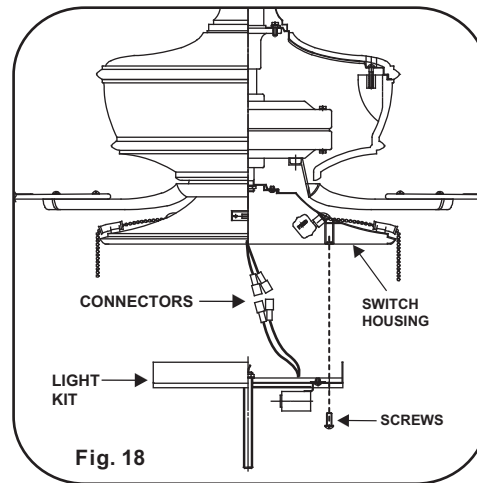

Fig. 18
1. Raise and hold the light kit close to the switch housing and proceed to do the wire connections. Connect the white wire connectors from the light kit and fan, follow the same procedure with the black wire connector from the fan and the black wire connector from the light kit. (Fig. 18)
2. Carefully tuck all wire connections back into the switch housing, then install the light kit onto the switch housing with 3 screws provided. Be sure to tighten all screws. (Fig. 18)